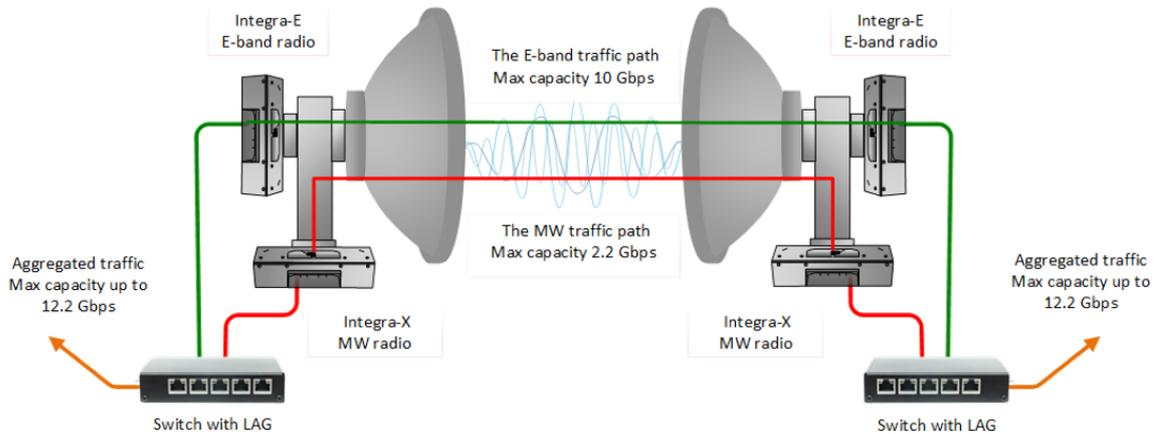

Figure 6-8 Dual-band solution in aggregation mode
- With Integra-E/E2/E3 and other microwave radio (e.g., Integra-X) links in aggregation mode supported by a 3rd party high-capacity external Ethernet switch (preferred configuration). Maximum capacity can reach up to 12.2 Gbps - Figure 6-8.